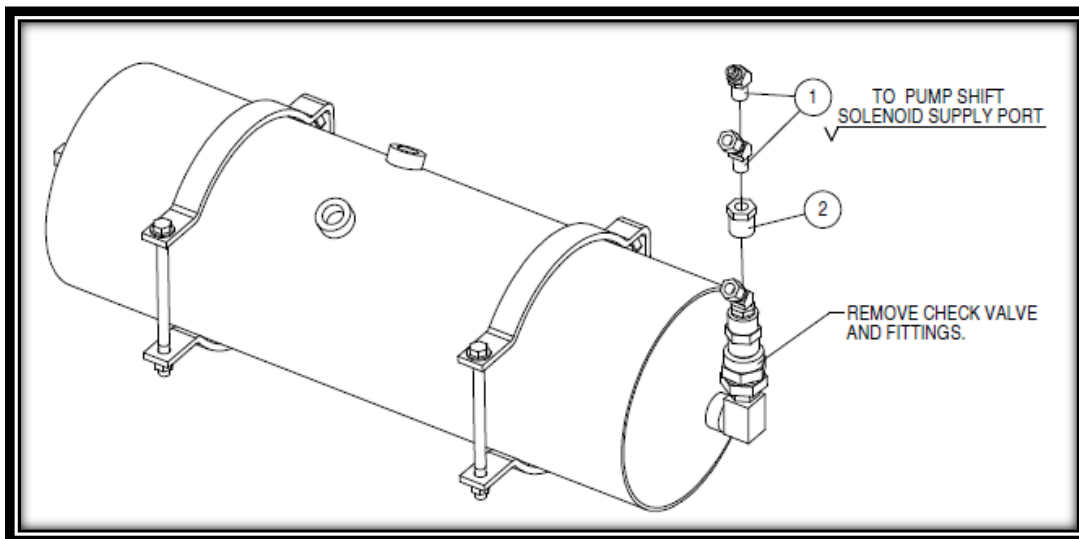

FIG 11.1
32. If the pump shift solenoid is supplied from an auxiliary air tank, remove the fitting, check valve and nipple fittings from the air tank. Install 0716-MM5-J05 bushing (Item 2) into the elbow on the air tank. Install a 45° elbow fitting into the bushing. Refer to FIG 11.1. Install an air line from the air tank to the straight fitting on the supply port of the new solenoid. Run an air line between the supply port fittings.